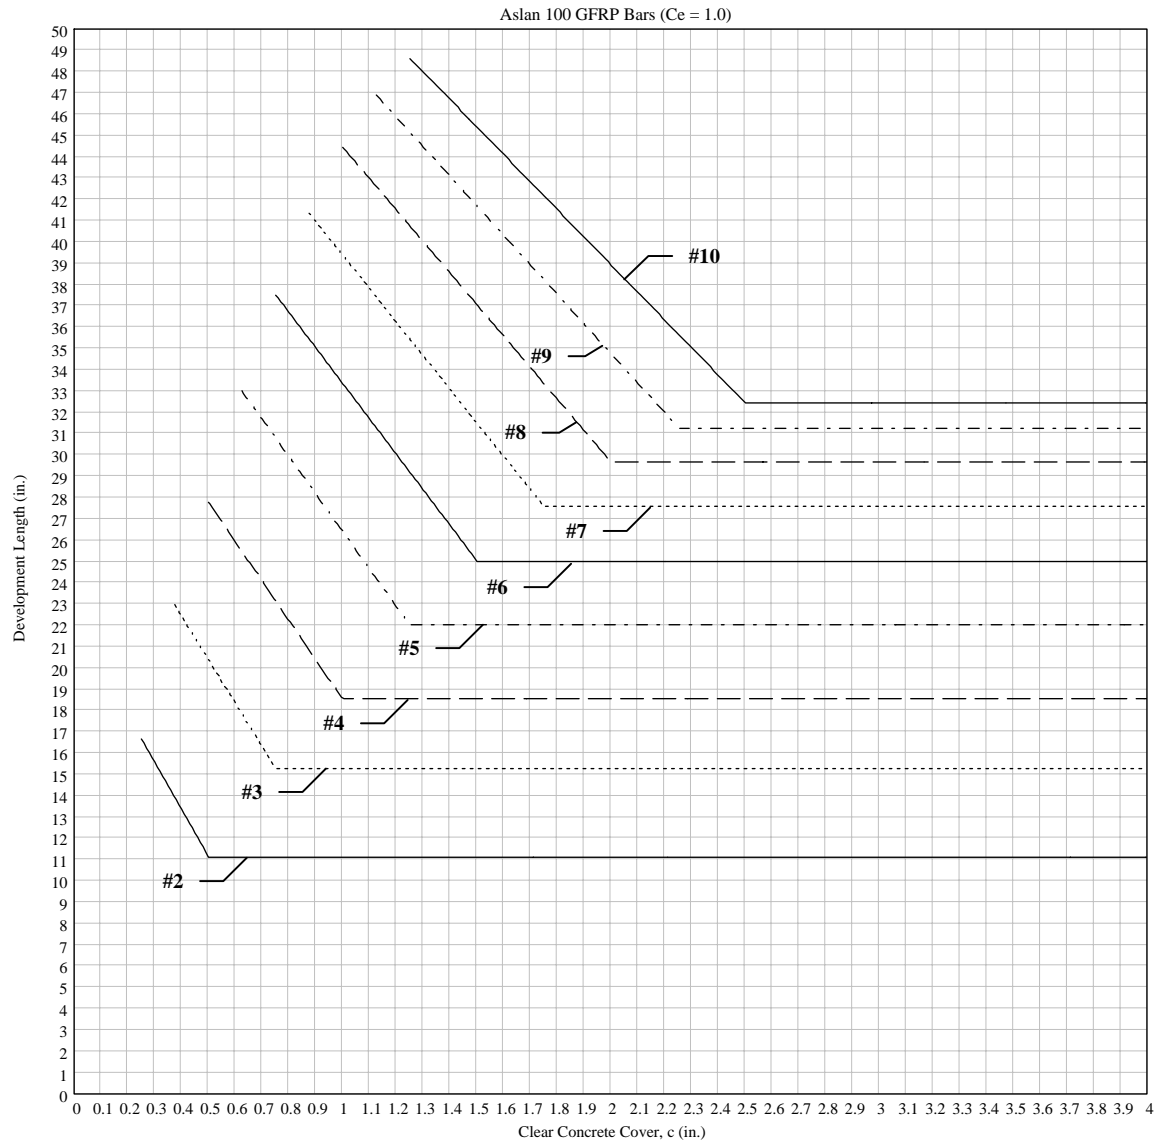
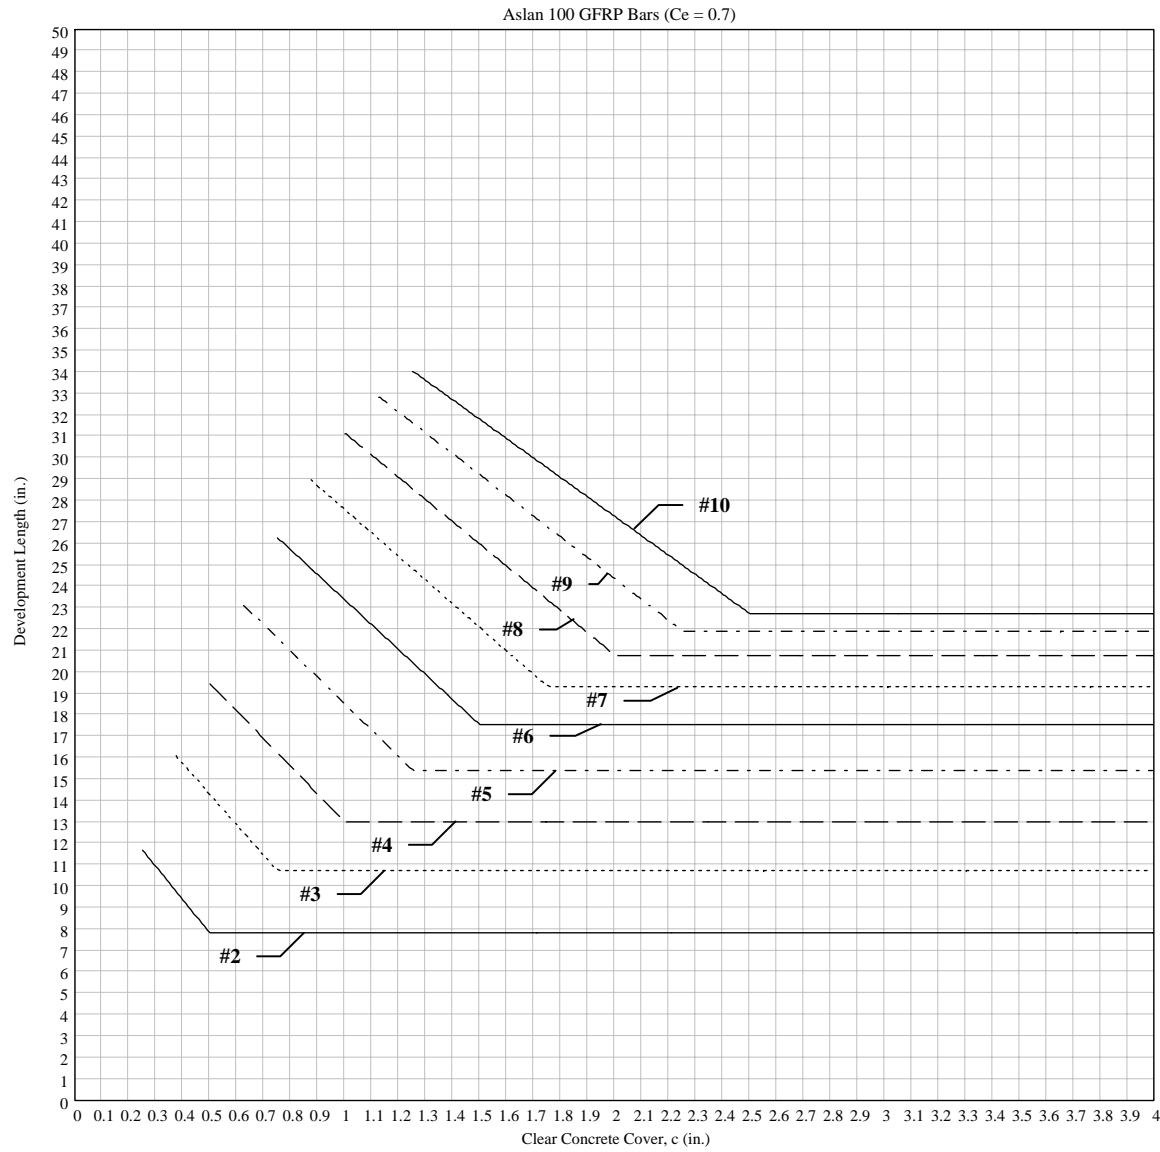
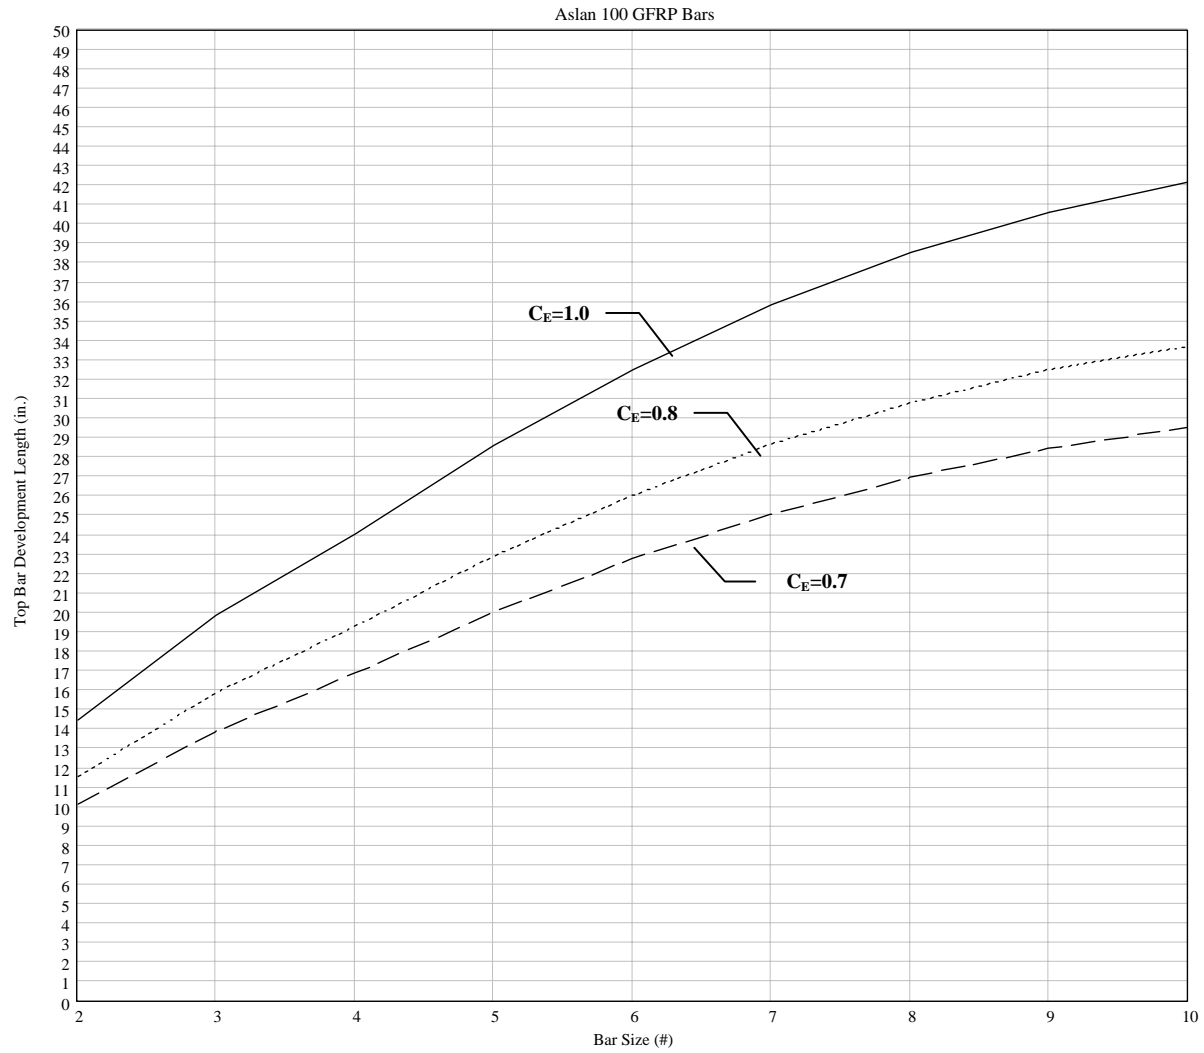

Figure 3 – Development Length for Aslan 100 GFRP Bars ($C_E = 1.0$)
Figure 5 – Development Length for Aslan 100 GFRP Bars ($C_E = 0.7$)
Figure 6 – Top Bar Development Length
d) Figure 3 to Figure 5 show the development length, ℓ_{df} , obtained from Eq. (4) as a function of Aslan 100 GFRP bar size and clear concrete cover, c . Figure 6 shows the suggested development length for top bar reinforcement.